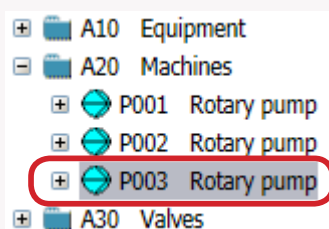

Figure 23 - Pump P003 created
- Next, notice that the pump was created in the structure below pump **P002 (Figure 23)**.